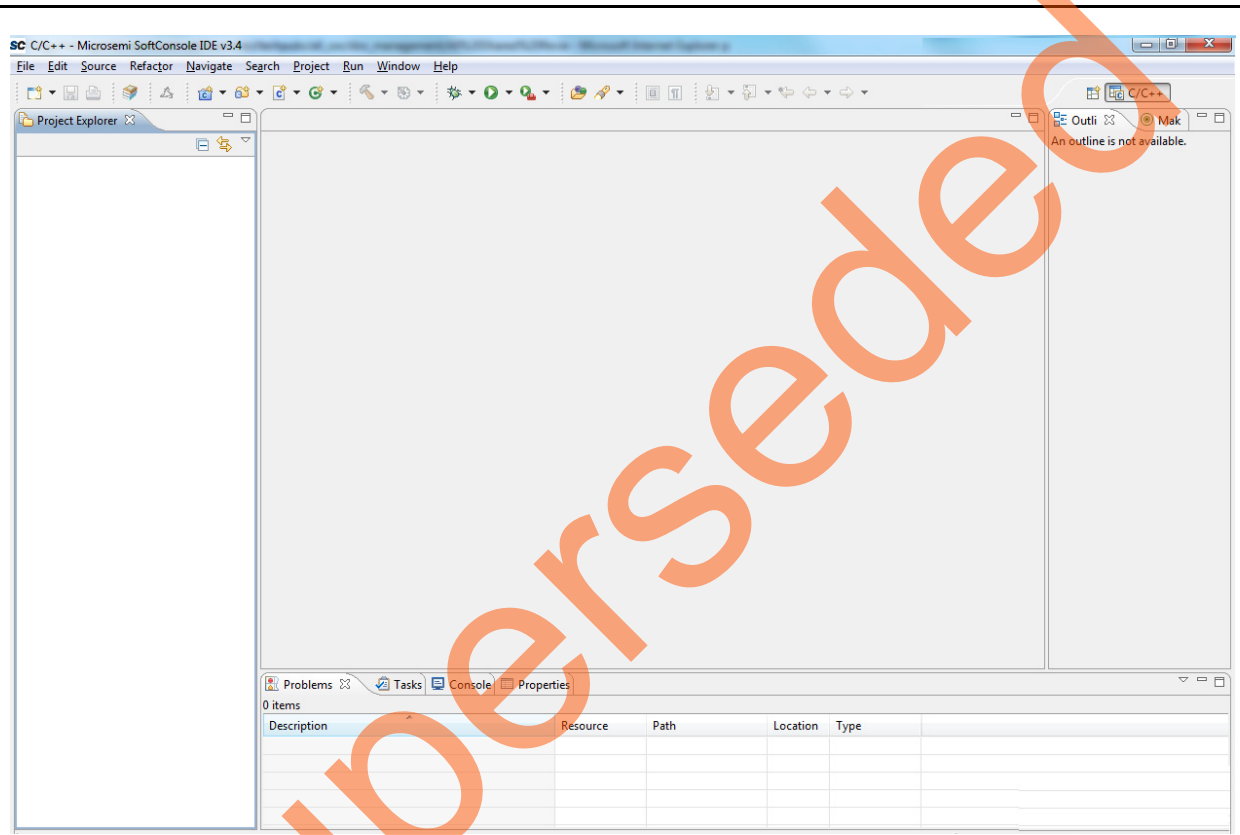

Figure 31 • SoftConsole IDE Project Workspace
1. To build the firmware eNVM client, invoke the standalone SoftConsole IDE. The **SoftConsoleIDE Project Workspace** window is displayed as shown in Figure 31.